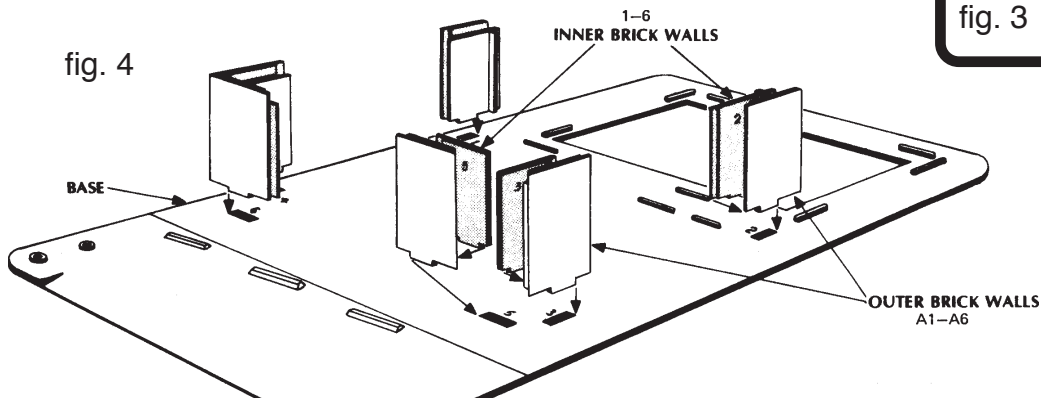

fig. 4
4. Match up the numbers on the INNER (1-6) and OUTER BRICK WALLS (A1-A6). Holding each pair of walls together, cement the tabs on the bottom into the matching slots in the BASE. Now cement the brick walls to each other, making sure that they match and fit properly in the corners. (Fig.4)